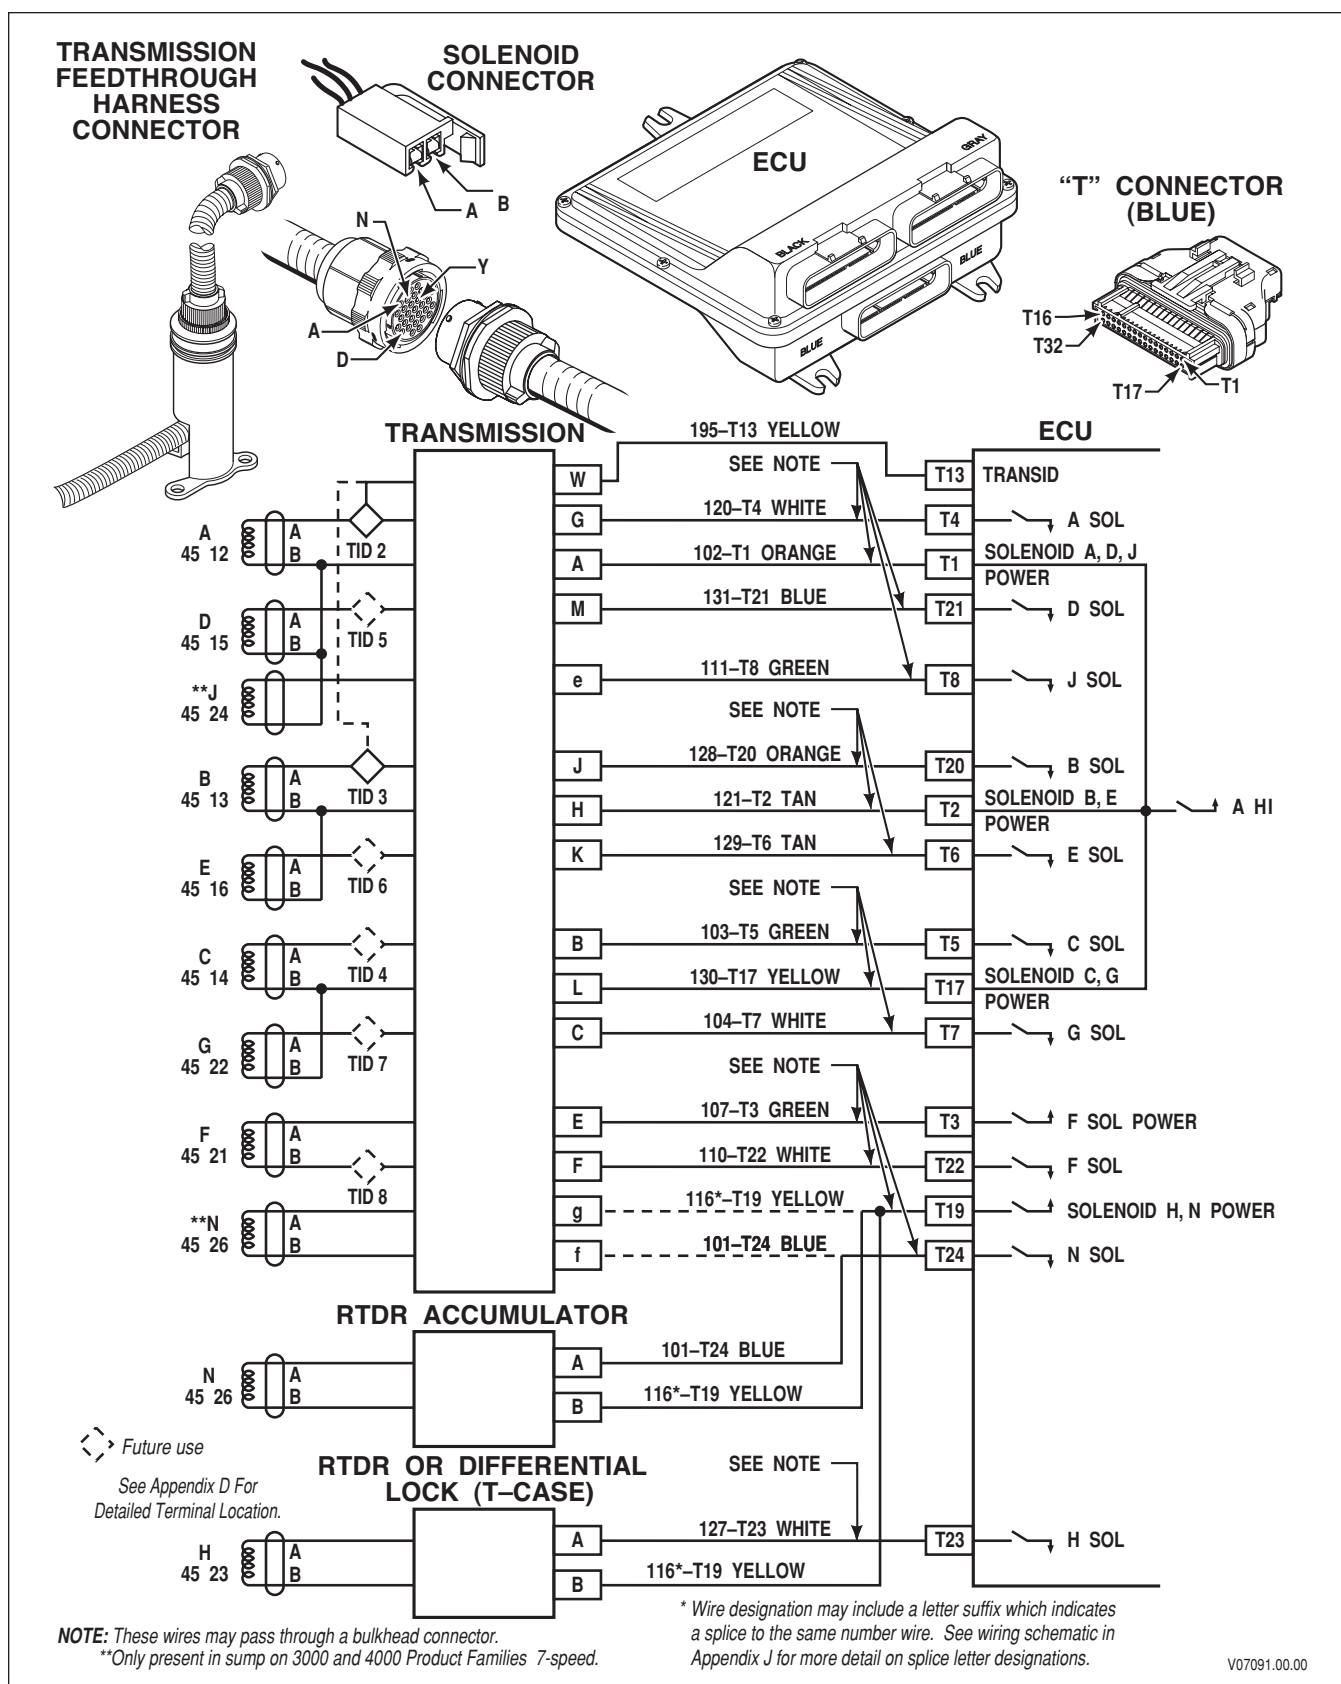

Figure 6-18. Code 45 Schematic Drawing
**CODE 45 XX—OPEN CONDITION IN SOLENOID CIRCUIT** (Figure 6-18)**Figure 6-19. Solenoid Resistance vs. Temperature****B. Troubleshooting:**
**CODE 45 XX—OPEN CONDITION IN SOLENOID CIRCUIT** (Figure 6-18)**CAUTION:**